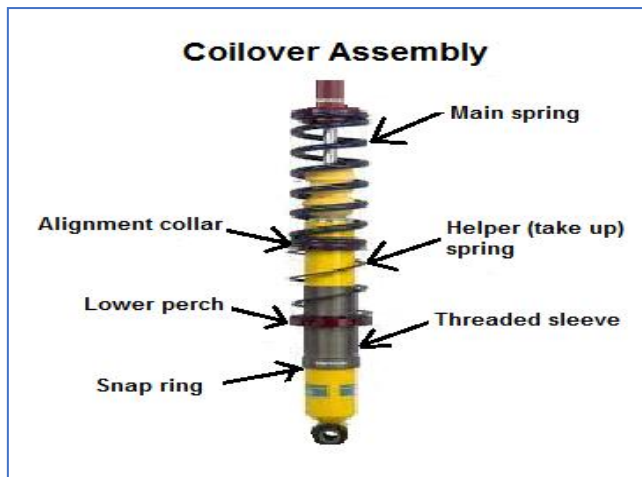

Figure 20
25.18 Helper or take up springs with alignment collar are allowed and must be mounted beneath the main external coil spring as per *Figure 20*. Only one take up spring and collar allowed per coil over assembly. Maximum take up spring rating must not exceed 5 pounds. The only purpose of the take up spring is to support the main spring if it is released during droop. (*Figure 20*)